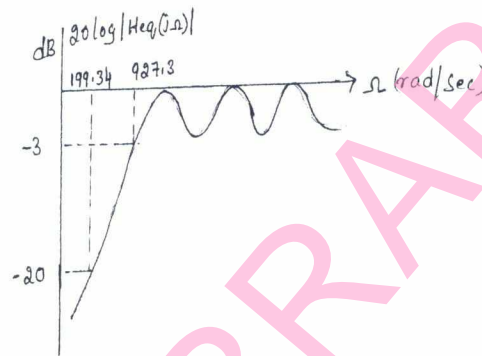

Fig. Q6(a)
- 6 a. Design a high-pass filter $H(z)$ to meet the specifications shown in Fig. Q6(a). The sampling rate is fixed at 1000 samples/sec . Use Bilinear transformation. (12 Marks)